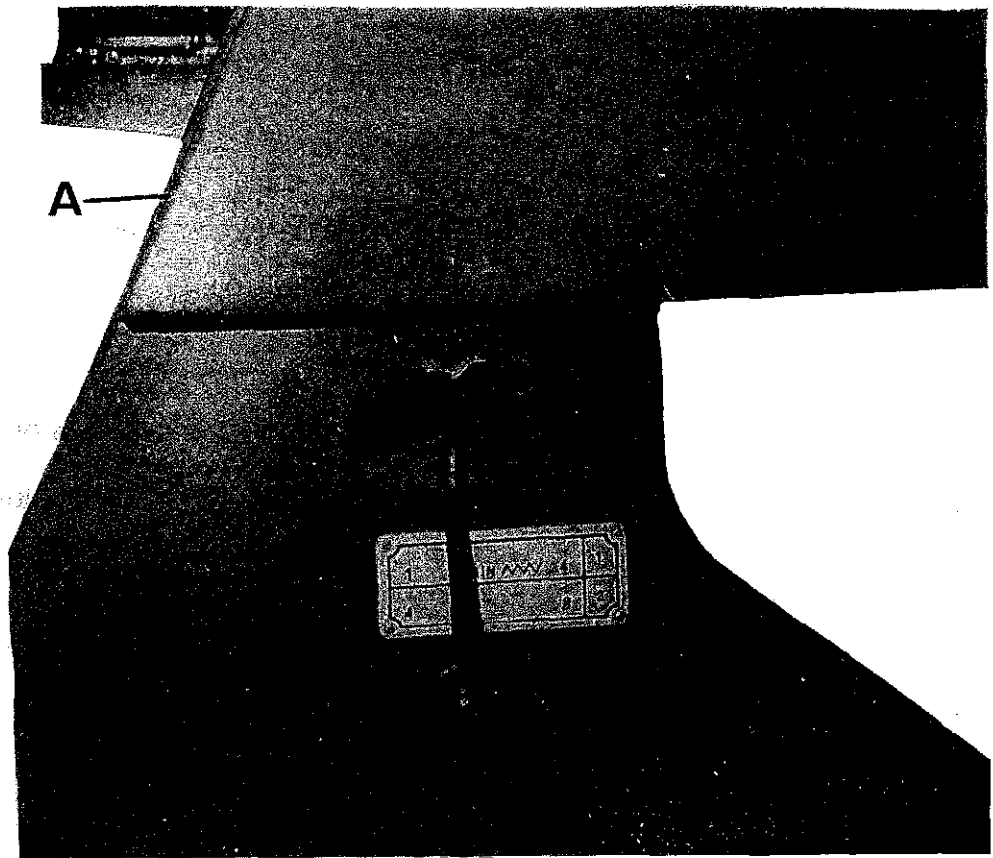

FIG. 25
- c) Remove drive belt cover 'A' FIG.25 at rear of machine.